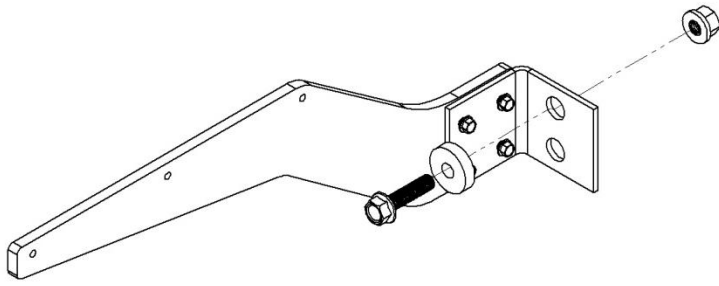

Figure 8
C. Install center bracket assembly (Figure 8).